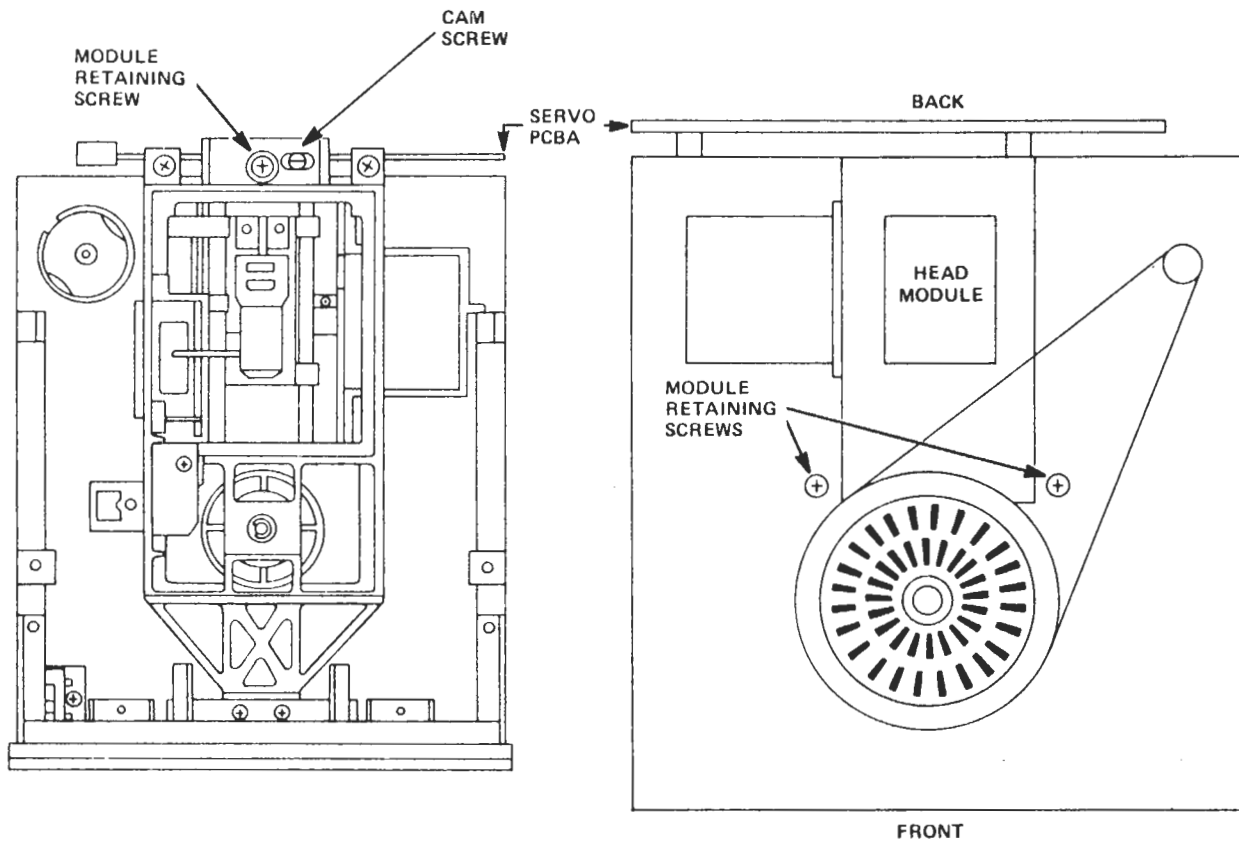

Figure 2-6
- 2.2.2.1 Turn the three (3) module retaining screws – two of which are located underneath and one of which is located at the back of the disk drive in the center – counterclockwise one-half (1/2) turn (see Figure 2-6) with a Phillips screwdriver.
- 2.2.2.2 Turn the cam screw (see Figure 2-6) counterclockwise with a flat blade screwdriver.
- 2.2.2.5 Tighten the three (3) module retaining screws (see Figure 2-6) with a Phillips screwdriver.